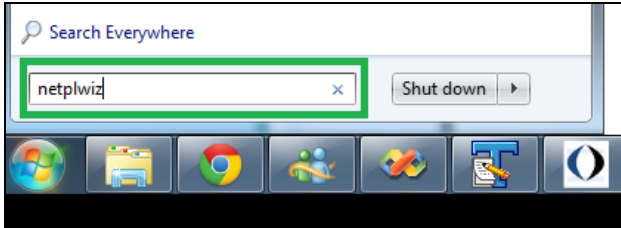

Figure 6: Accessing User Account Settings
- a. Type netplwiz in the search line of the Start Menu (Figure 6).